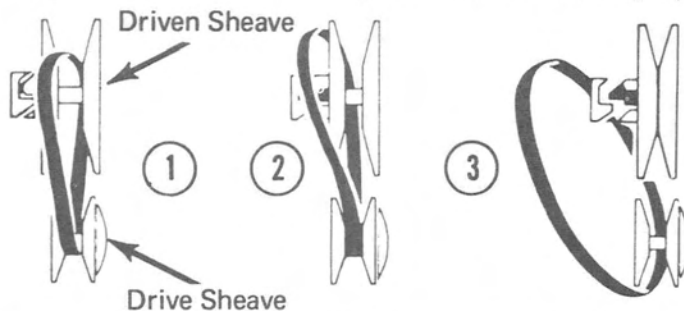

Figure 2. Variable Speed Drive Belt - Hurricane (644cc)
3. Work belt off top rear side of sliding half toward steering column. (Figure 2)